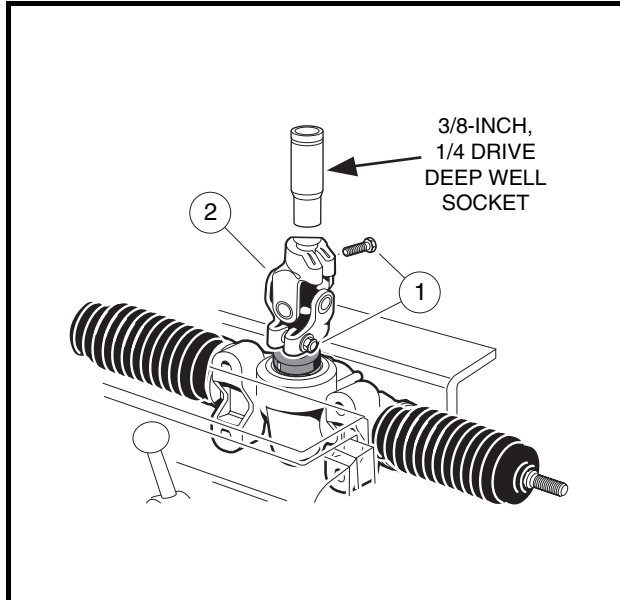

Figure 7-19 Adjust Rack and Pinion Resistance
11. Insert a 3/8-inch, 1/4-drive deep-well socket into the steering column end of the universal joint (2), and tighten the bolts (1) to 15 ft-lb (20.3 N·m) (**Figure 7-19, Page 7-10**).